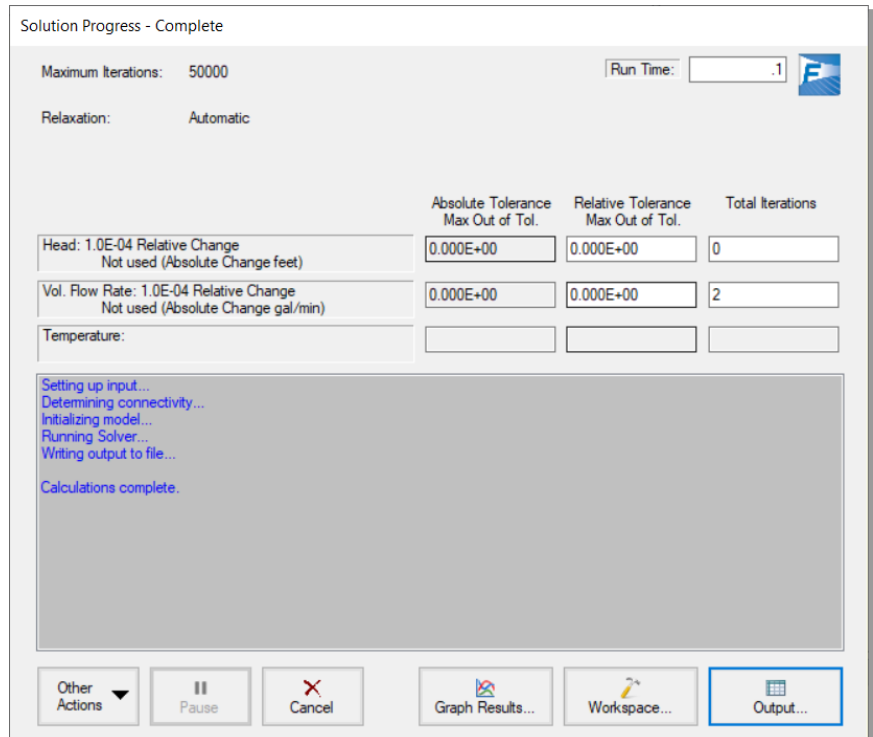
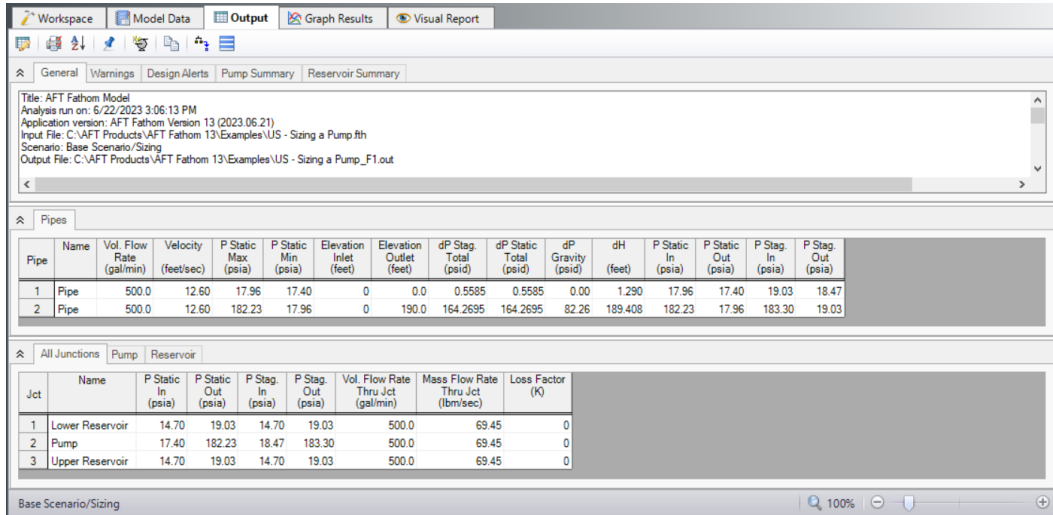

Figure 2.21 The Solution Progress window displays the Solver's convergence progress
Figure 2.23 The Output window displays output in table form
- **Run the Model:** click the green arrow icon on the Common Toolbar, press CTRL+R, or open the Analysis menu and click Run Model. During execution, the Solution Progress window is displayed and can be used to pause or cancel the Solver's activity (see Figure 2.21). When the solver finishes, click the Output button and the table-based Output window will appear (see Figure 2.23). Besides just viewing the results in the Output window, you can save to file, export to Excel or a spreadsheet-ready format, copy to the clipboard, print to PDF, or print out on the printer.
Similar to the Model Data window, the Output window (Figure 2.23) has a similar structure with three sections. You can expand or collapse each section by dragging the boundary between the sections up or down or by clicking the arrow beside the section label. The parameters and units chosen in the Output Control display in the tables.